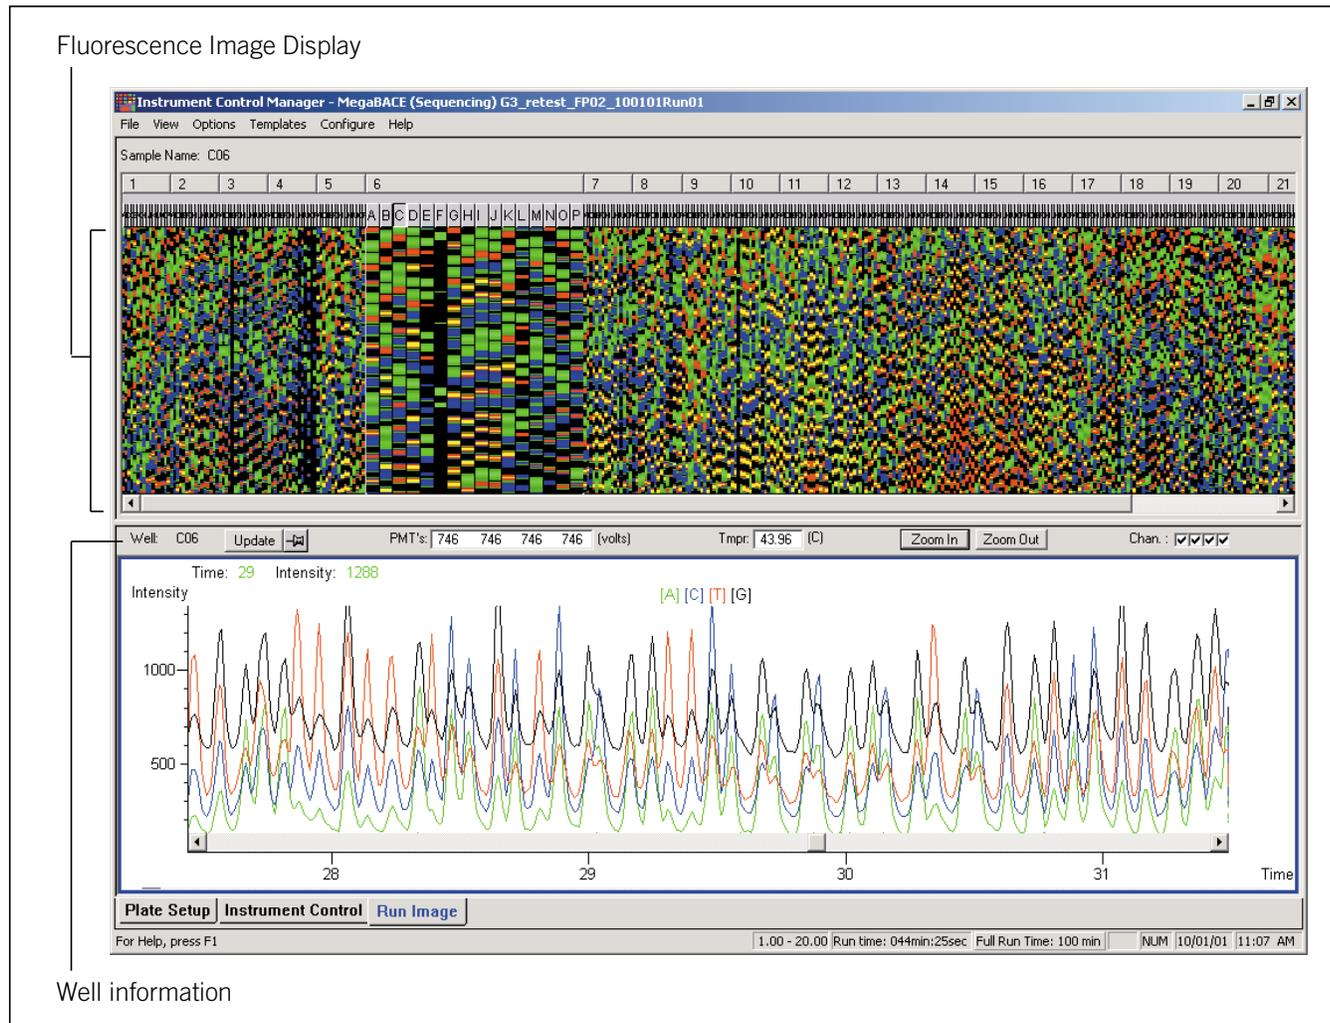

Figure 16-5. Assessing the quality of a sequencing run in the Run Image window.
11. Click **OK**. The electropherogram in the Run Image window (figure 16-5) displays the attributes you selected.
You check the Fluorescence Image Display area in the Run Image window (figure 16-5) to assess the quality of the run. This pseudocolor display represents the capillaries from which the instrument is currently collecting data and indicates the dominant spectral channel.
You can check the Well information area (figure 16-5) to see that the photomultiplier tube (PMT) voltage and temperature match the settings in the selected instrument parameters set.